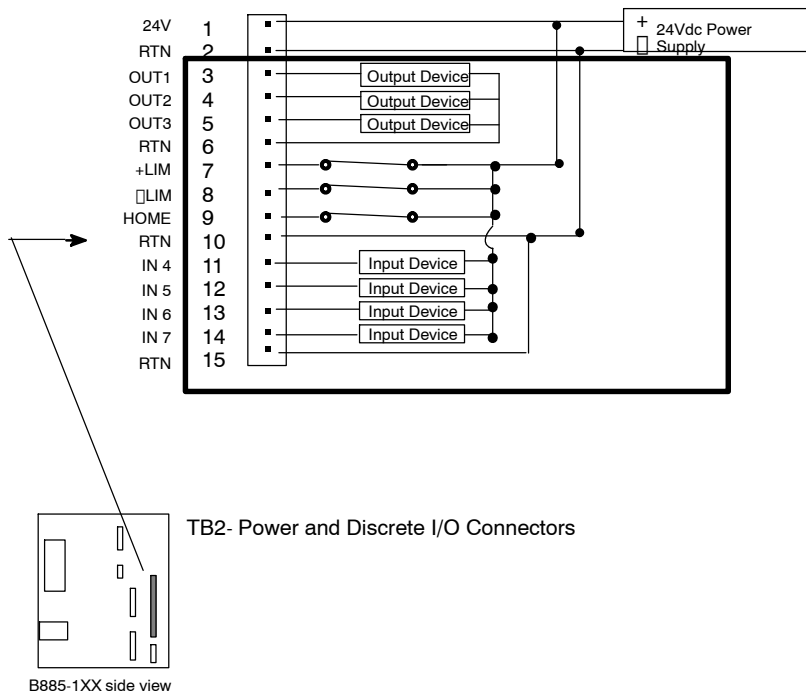

Figure 36 Discrete I/O Test Points on the B885-1XX
- Step 1** Connect the positive output of a 12 ... 24 Vdc power supply to the failed B885-1XX input pin and connect the common output to the input common pin TB2-15. Verify that the corresponding LED is illuminated. Refer to table below and Figure 36.
- Step 4** With a dc voltmeter, measure from the failed B885-1XX output pin to the output common pin TB2-6. The measured voltage should be equal to the voltage input by the B885-1XXs power supply. Refer to table below and Figure 36.